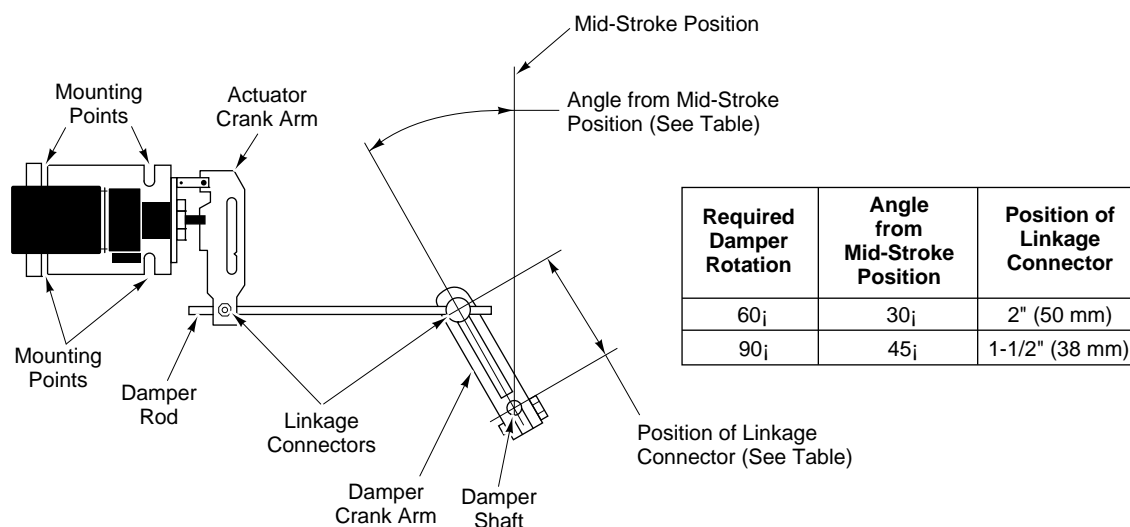

Figure-14 Actuator/Damper Mounting.
- c. If possible, select a mounting position such that, at mid-stroke, the actuator crank arm and the damper crank arm on the drive shaft are each at a 90° angle to the damper rod (refer to Figure-14). This is the recommended mounting position. It may be necessary to swivel the actuator linkage to arrive at this mounting location.
4. Mount a ball joint connector in the slot on the damper crank arm. To achieve 90° of damper rotation, position the connector 1-1/2" (38 mm) from the centerline of the shaft hole on the crank arm. For 60° of damper rotation, position the connector 2" (50 mm) from the shaft hole centerline. Typically, 60° to 70° of rotation (maximum is 90°) is sufficient to permit almost maximum air flow through the dampers. Refer to Figure-14.
5. Rotate the damper to its open position. Install and secure the damper crank arm (with ball joint connector) to the damper shaft, positioning the crank arm as follows (refer to Figure-14):